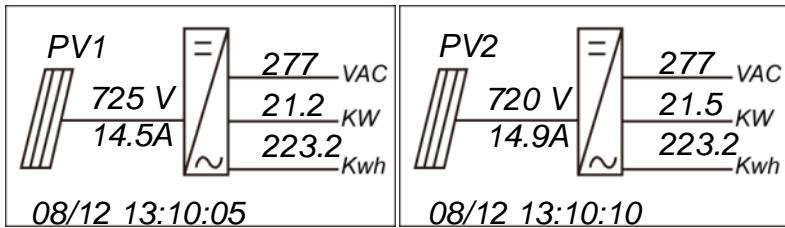

Figure 3.3 - Normal Operation Status
- 5.) When the LCD shows the normal operation status (Figure 3.3) and the “RUN” light on the LED panel lights up, it indicates that the grid connection and power generation are successful.